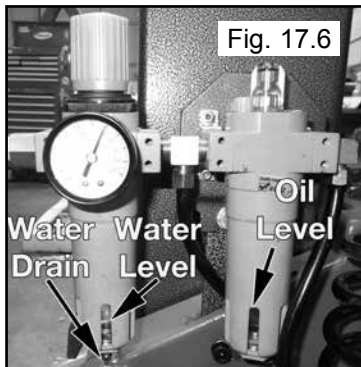

Fig. 17.6
2. Observe the sight glass on the water separator/filter unit. If water is observed, drain by pressing upwards on the drain plug at the bottom of the reservoir. (See Fig. 17.6)